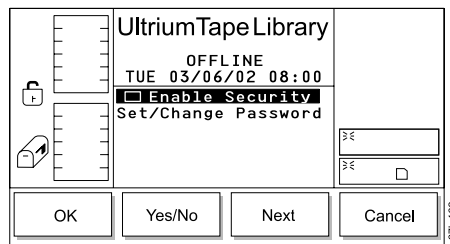

Figure 244. Secure Dialog
Note: If security is enabled, you must enter the existing or default password to display the Secure Dialog (see Figure 244).
6. Press the button below the **OK** softkey. The Secure Dialog screen displays (see Figure 244).
Note: In Figure 244, the absence of a checkmark in the checkbox beside the Enable Security field indicates that security has not been enabled.